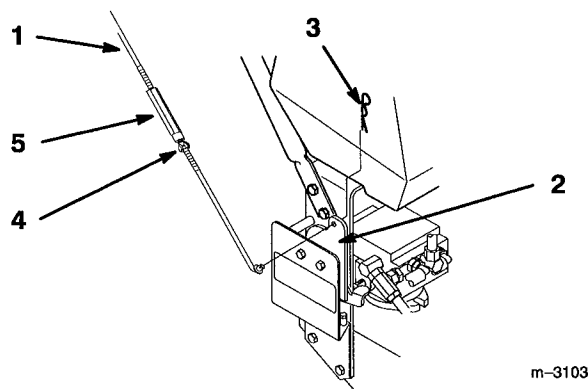

Figure 4
7. Slide rod into control bracket and secure with hairpin cotter (Fig. 4).
15. Loosen wing nut on right control rod and rotate turnbuckle in or out to change tracking. Secure turnbuckle in position with wing nut (Fig. 4).